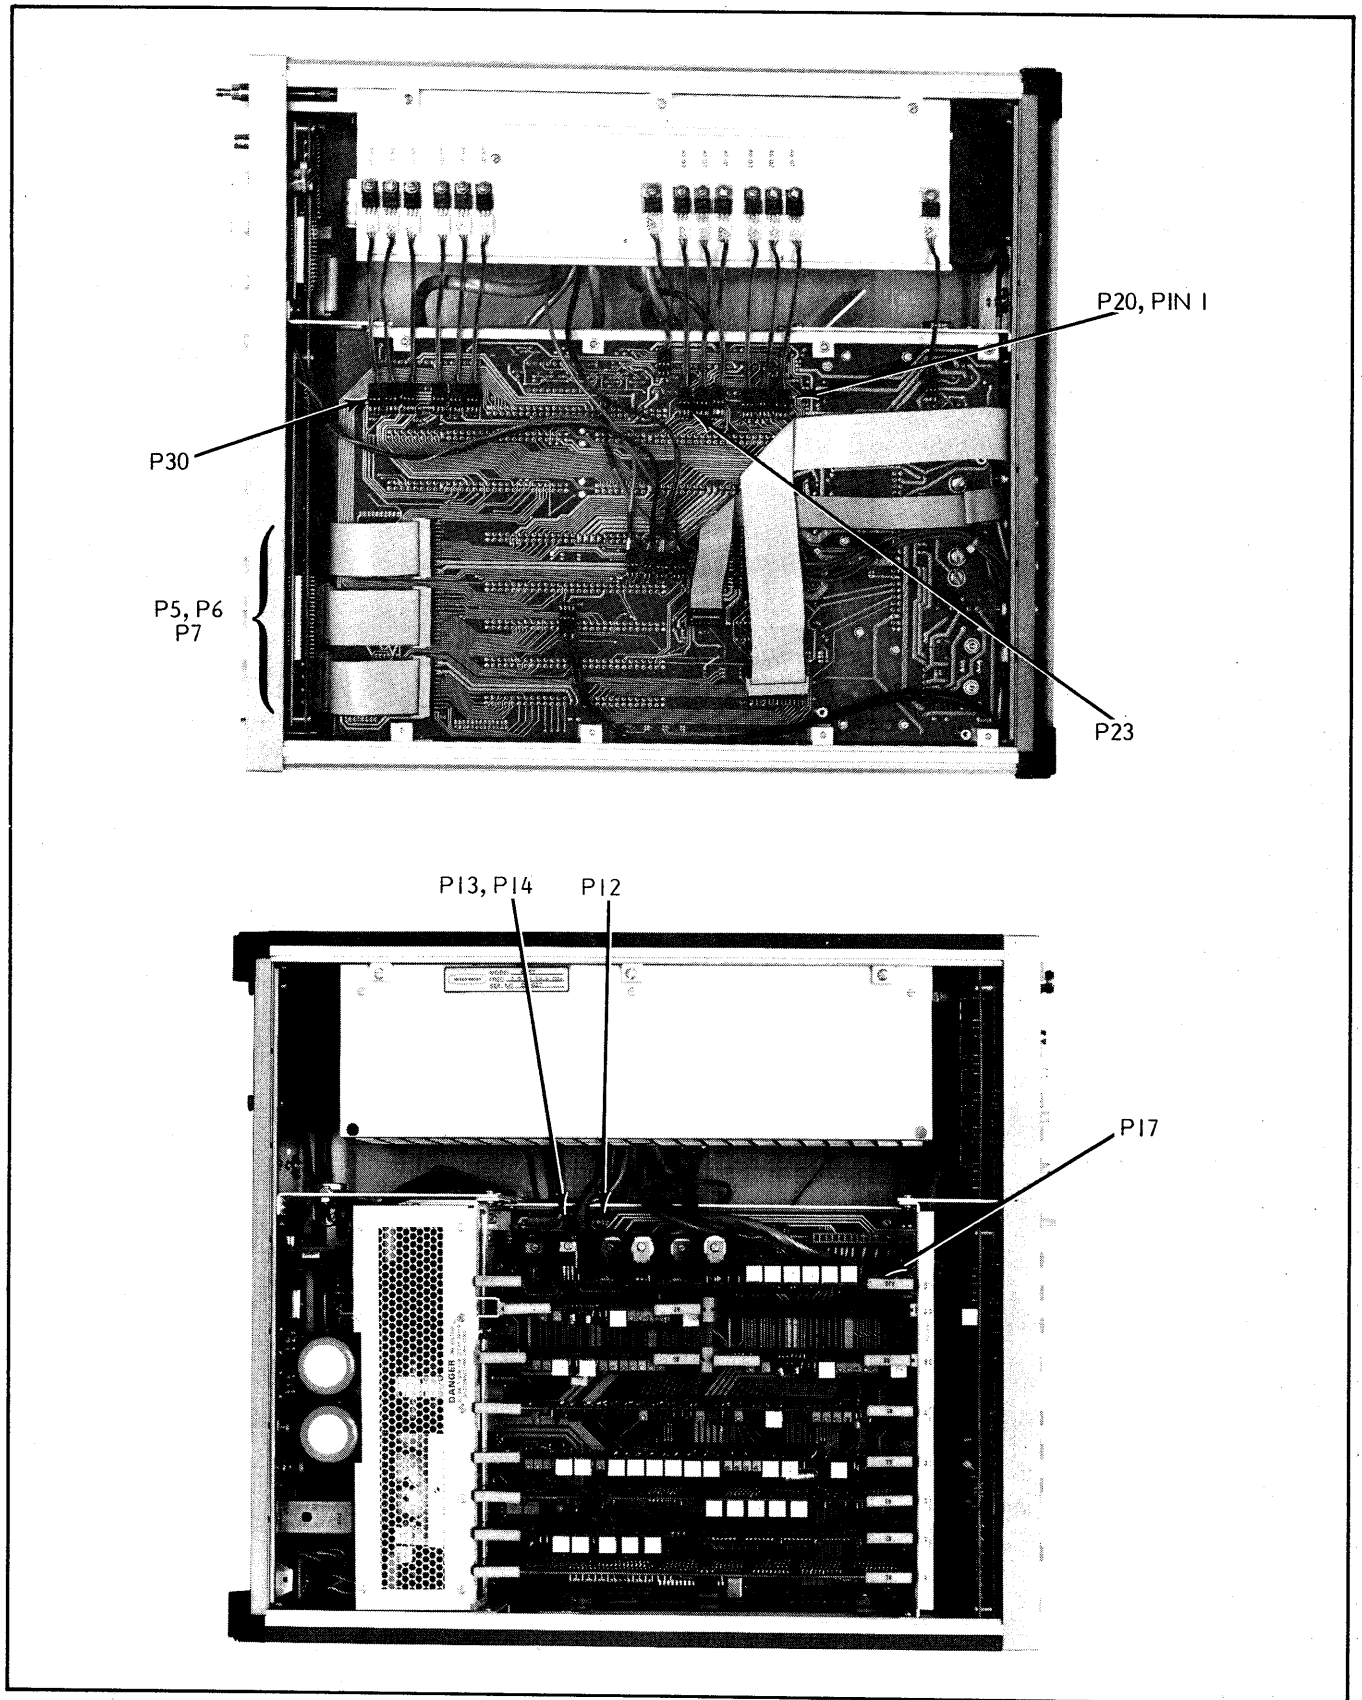

Figure 5-2. Connector Locations
2. Remove the A1 (Option 3) and A2 thru A10 PCBs (Figure 5-2).
3. As applicable, disconnect the following A14 connectors (Figure 5-2): P5, P6, P7, P12, P13, P14, P16, P17, P20, P23, P27, and P30.
1. Disconnect the DMM from P3 and connect it between A14P20, pin 1 (Figure 5-2), and chassis ground.